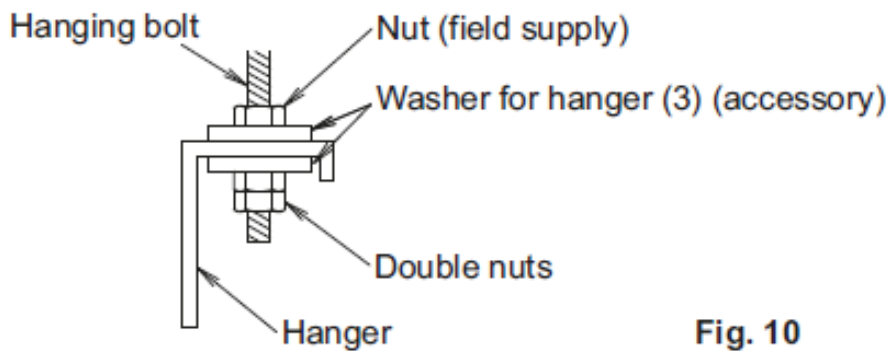

Fig. 10
- Install the hanging bolts (M10) as in Fig. 10.
- Fix the hanger to the hanging bolt as in Fig. 10.